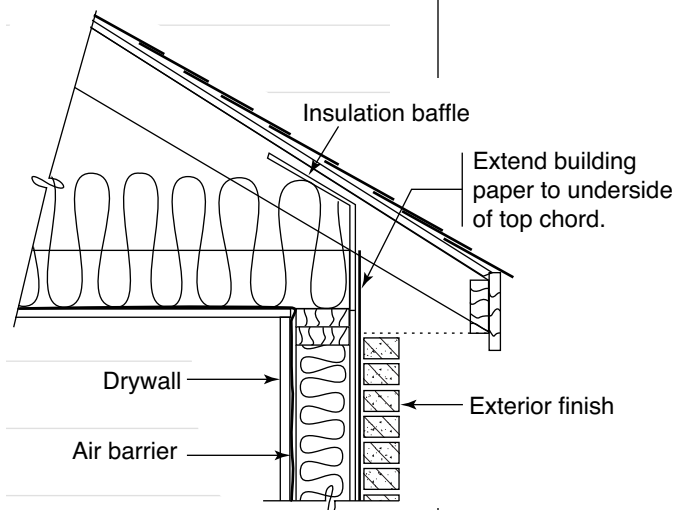

FIGURE 30
- ◆ Use insulation stops. These baffles prevent cold air from blowing the insulation out of place, and they also keep the air from short-circuiting through the insulation. If air is moving through the insulation, it reduces the effectiveness of the insulation and creates a cold spot (see Figure 30).